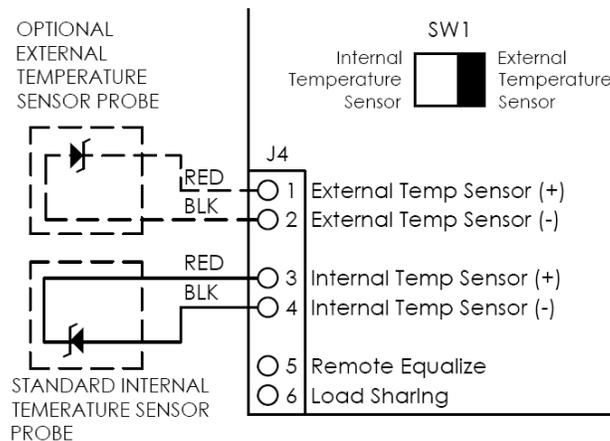

Figure 12 – Temperature Compensation Connections (External and Internal for S2A-406 Board)
2. Toggle the **SW1** switch on the S2A-406 board to the External position. Refer to Figure 12.